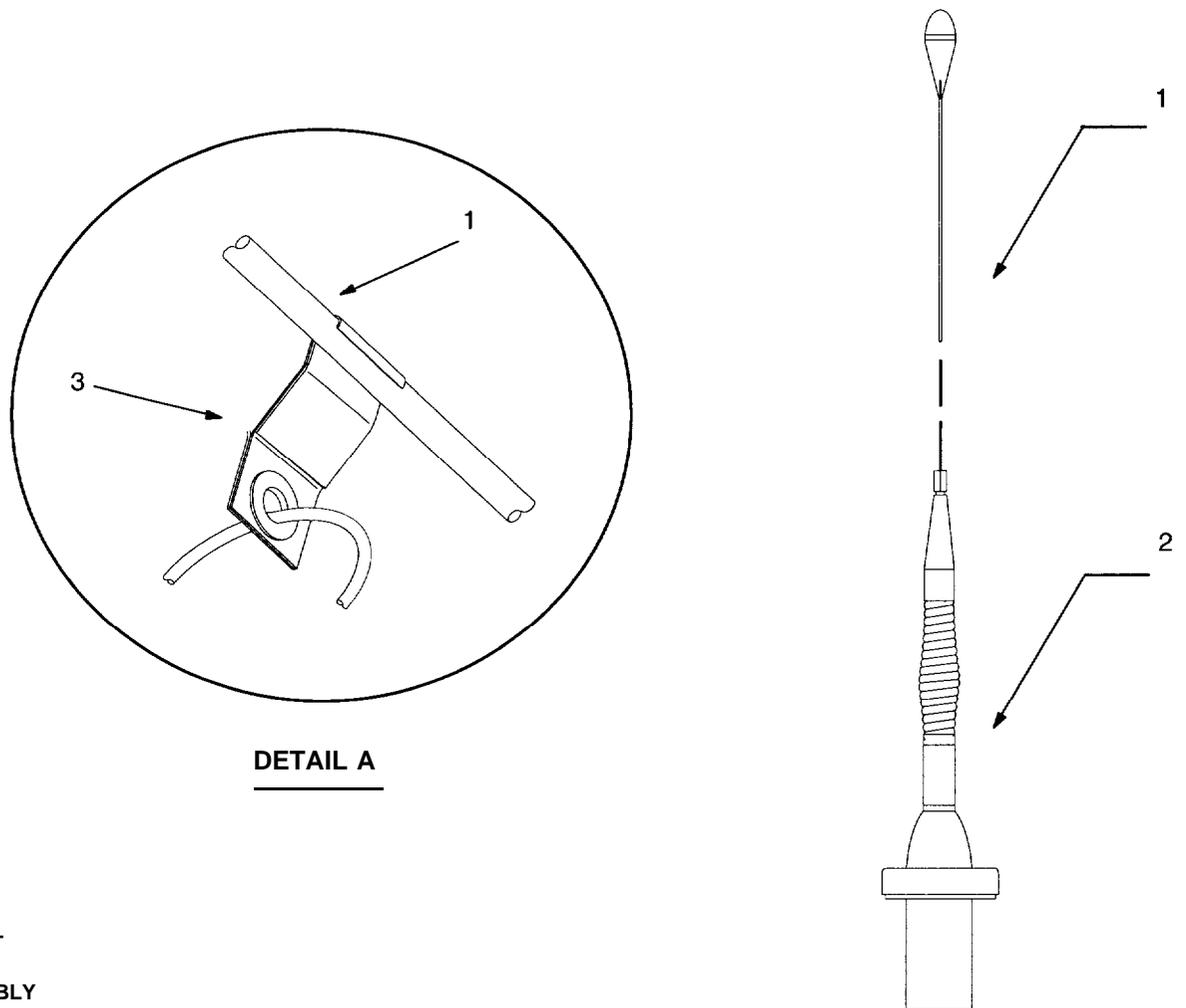

Figure 5-3. Top Antenna Assembly Installation
a. Antenna element (1).	Install and secure to antenna base.(2)
b. Wire rope assembly (3).	Attach clip to antenna element (1). Tie rope to vehicle to position antenna in desired location. See Figure 5-3, Detail A.